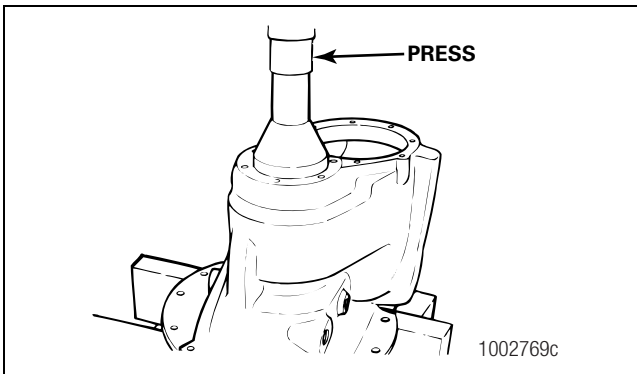

Figure 5.8
- C. Use a sleeve or a bearing driver tool and a press to install the cup. Press the cup into the carrier until the bottom of the cup touches the bottom of the bore. If a press is not available, use a sleeve, a brass drift or a bearing driver tool and a hammer to install the cup. Figure 5.8.